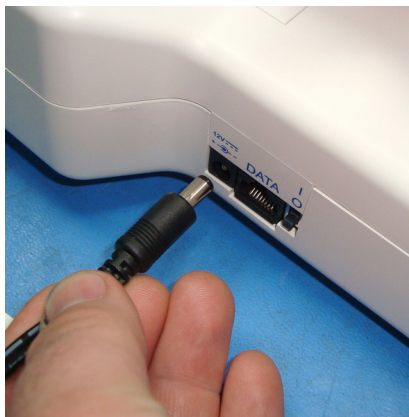

Figure 3-7 DC power plug
1. Insert the round DC power plug into its receptacle on the left side of the HANDHELD. See Figure 3-7.